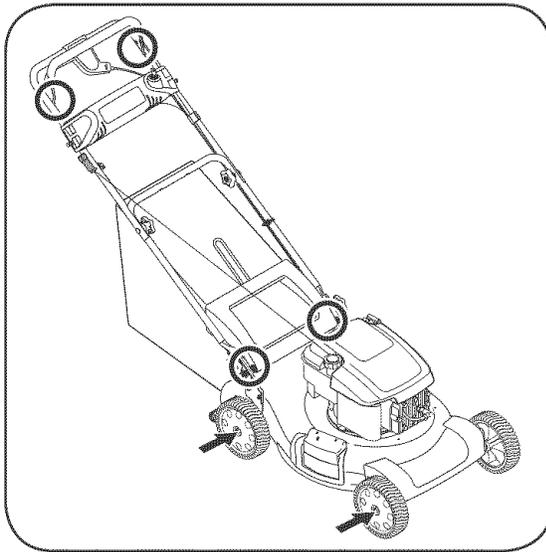

Figure 5-1: Lubrication areas on the mower.
1. Lubricate pivot points on the blade control at least once a season with light oil. The blade control must operate freely in both directions, Figure 5-1.